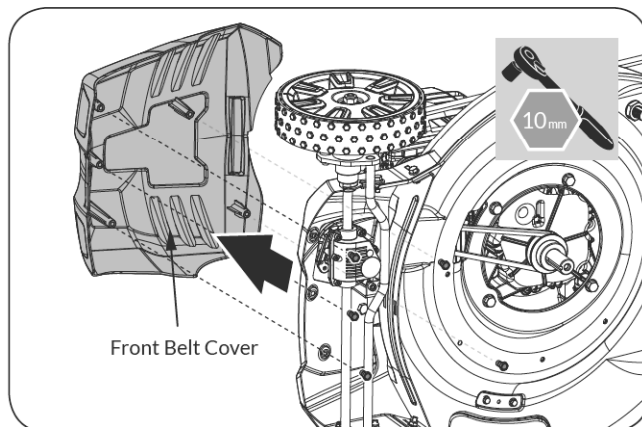

Figure 24
2. Remove the five bolts fix the front belt cover and removing the front belt cover. (See **Figure 24**)